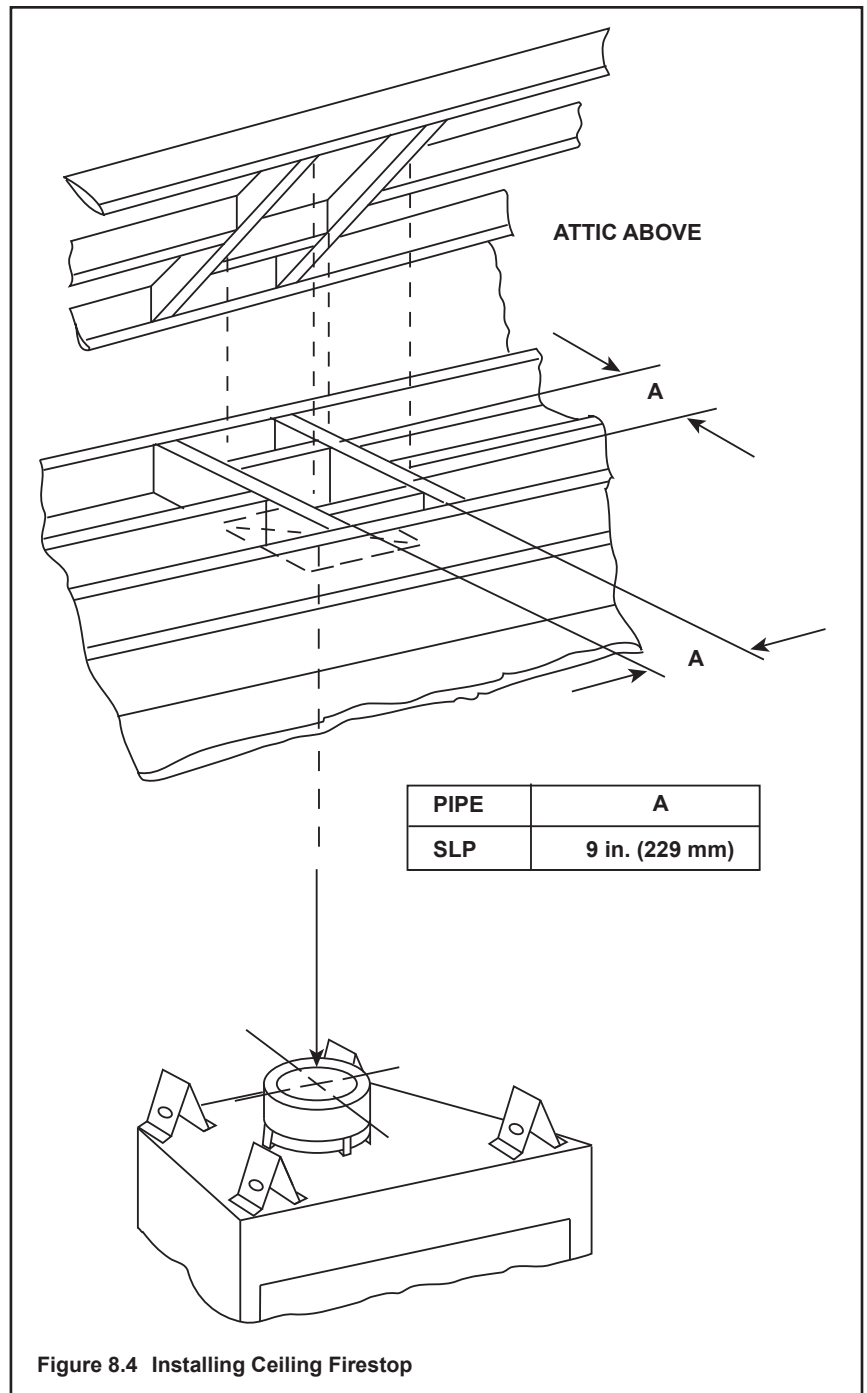

Figure 8.4 Installing Ceiling Firestop
- **SLP pipe only** - Frame opening 9 in. x 9 in. (229 mm x 229 mm) whenever the vent penetrates a ceiling/floor (see Figure 8.4).